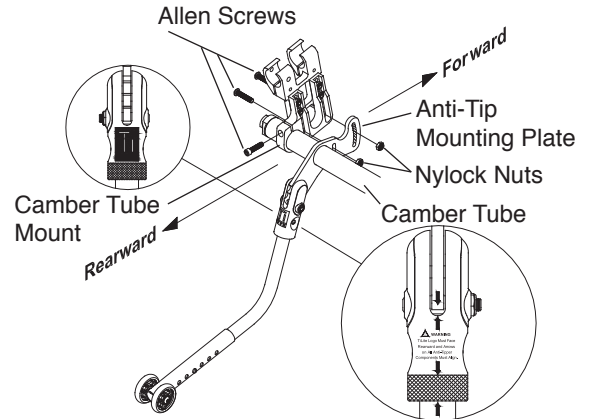

Figure 7
Do not disassemble the anti-tip mounting assembly (see Figure 7). *If you ignore this warning, you may fall, tip over or lose control of the wheelchair and seriously injure yourself or others or damage the wheelchair.*
2. Loosen the Allen Screws that secure the camber tube to the camber tube mounts and slide the camber tube out of one of the two camber tube mounts. See Figure 7.
4. **⚠ WARNING:** Make sure that the TiLite logo is visible on the rearward side of the user-friendly anti-tip receivers as shown in Figure 7 and that the white arrows are all aligned on the opposite (forward) side of the anti-tip components as shown in Figure 7. *If you ignore this warning, you may fall, tip over or lose control of the wheelchair and seriously injure yourself or others or damage the wheelchair.*